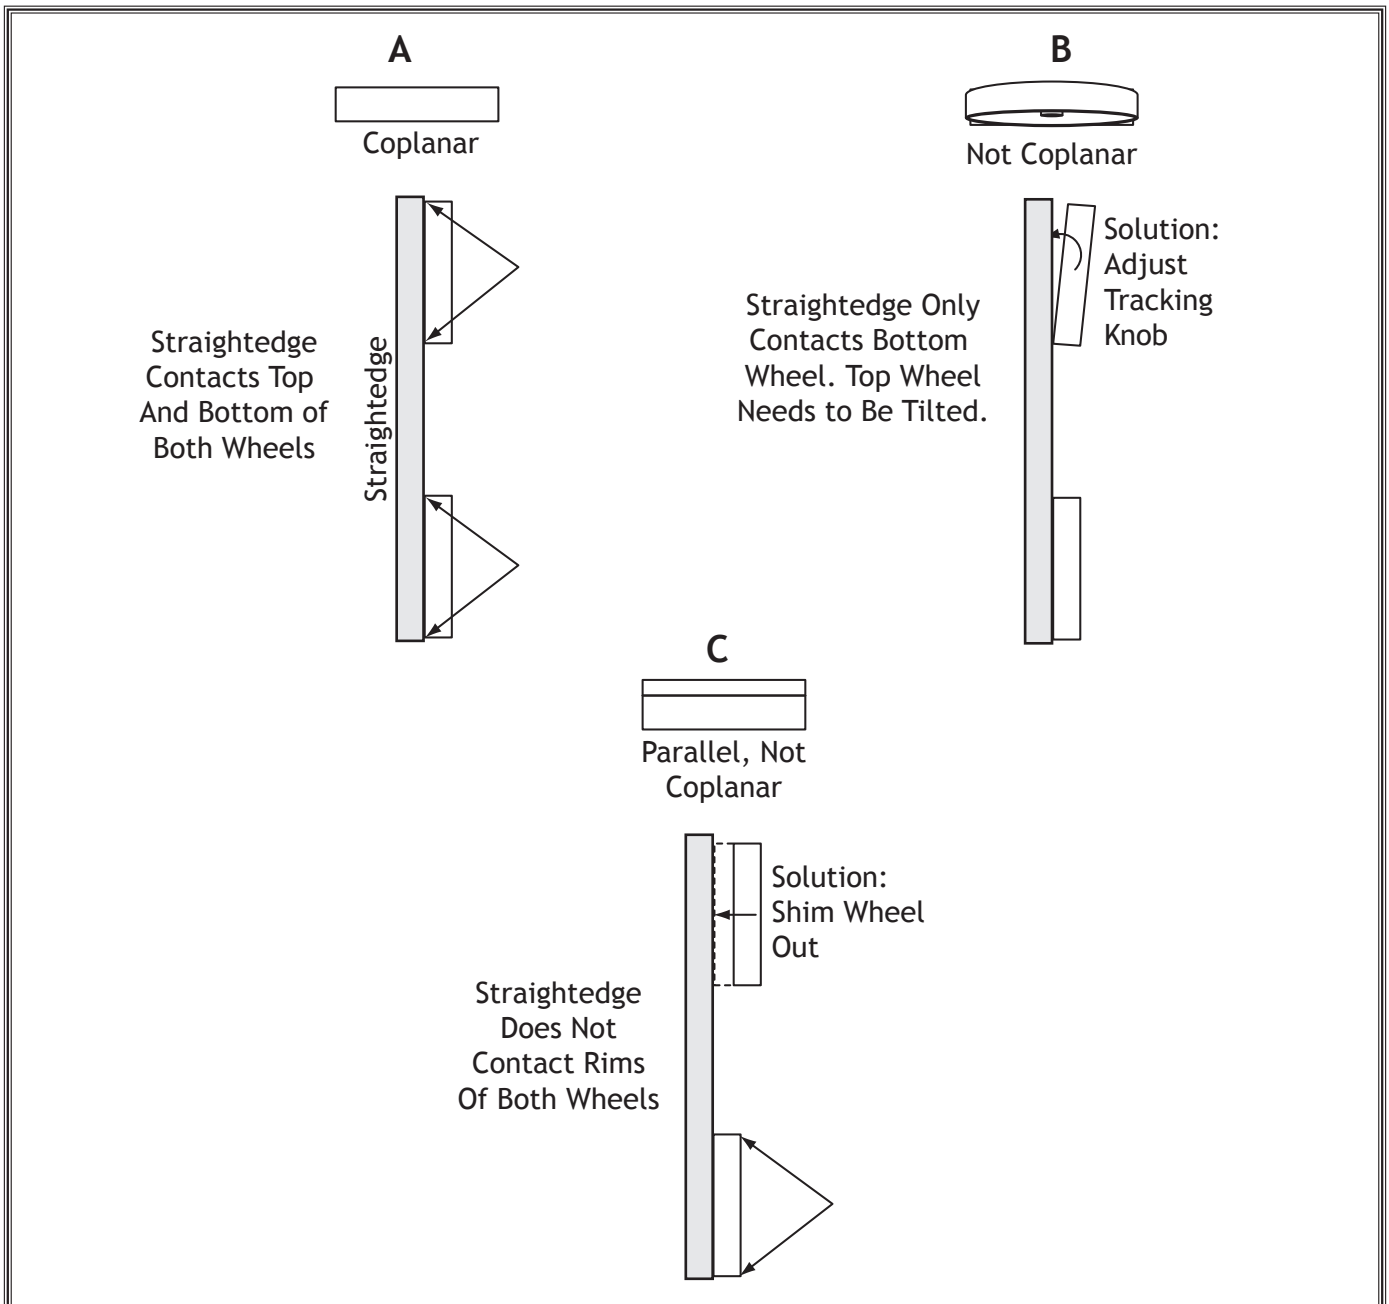

Figure 62. Coplanar conditions.
- If the wheels are coplanar (see **Figure 62**, "A"), the straightedge will evenly touch the top and bottom of both wheels.
- If the wheels are not coplanar (see **Figure 62**, "B"), place the straightedge on the lower wheel first (ensuring that it touches both the top and bottom rim), then adjust the upper wheel tracking knob to make the upper wheel coplanar with the lower wheel.
- If the wheels are coplanar (parallel with each other), but the straightedge does not touch the rims of both wheels (see **Figure 62**, "C"), then shim the wheels as instructed on the next page.